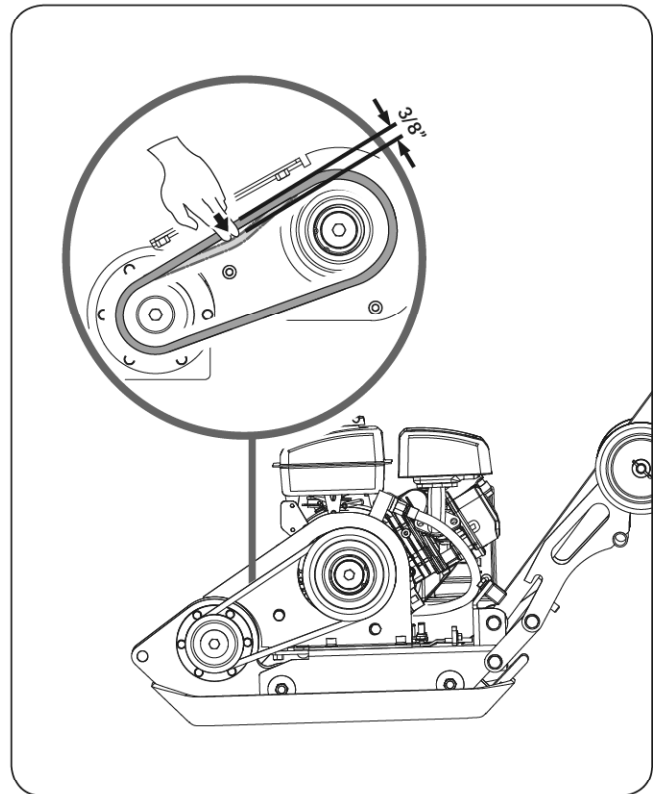

Figure 7b
4. Check the V-belt tension by squeezing them in the center. The normal deflection on each side should be 3/8"(9mm) to 1/2"(13mm) with moderate pressure from your thumb or finger. (See **Figure 7b**)
7. Move the engine back by hand until reach the right belt tension, Refer to the **Figure 7b** to check the belt tension. Then lock the jam nut.